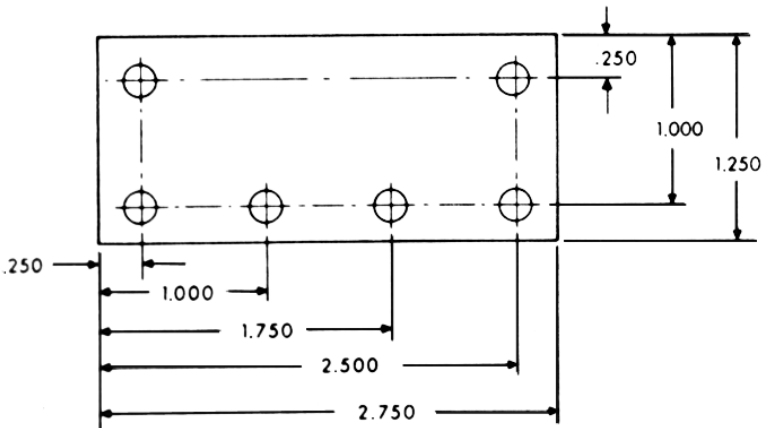

Fig. 7 A workpiece dimensioned in the absolute system mode. Note: All dimensions are given from a known point of reference. (Icon Corporation)
**Absolute program locations** are always given from a single fixed zero or origin point (Fig. 7). The zero or origin point may be a position on the machine table, such as the corner of the worktable or at any specific point on the workpiece. In absolute dimensioning and programming, each point or location on the workpiece is given as a certain distance from the zero or reference point.